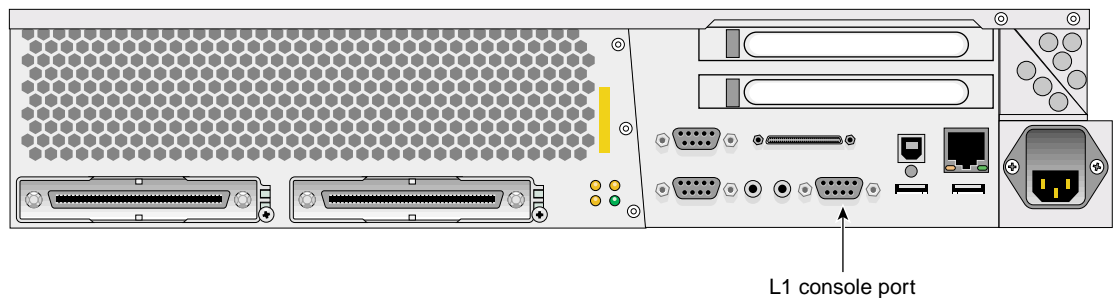

Figure 3-2 Location of the L1 Console Port
To attach a PC to your server, connect a null modem serial cable between the PC and the server's L1 console port (refer to Figure 3-2). Perform the following steps to establish a connection between your server and the system console (PC):